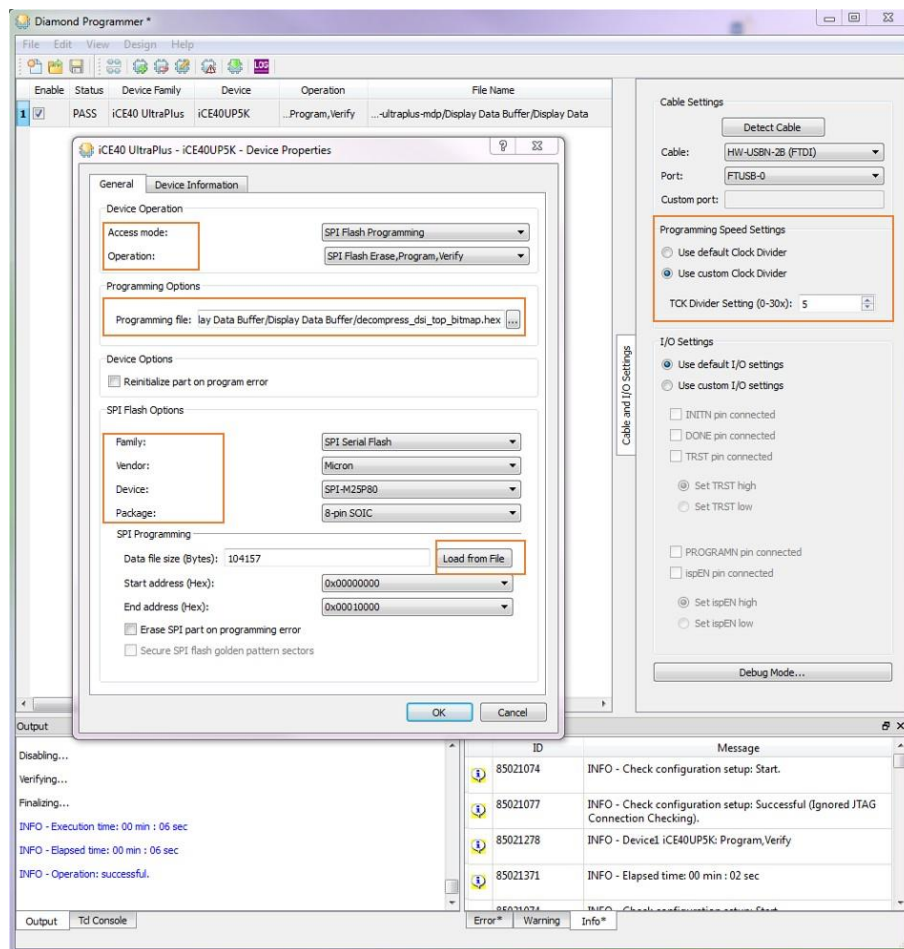

Figure 7.3. Programming SPI Flash on Board
- SPI Flash Options:** select correct Flash chip as shown in Figure 7.3 blow.